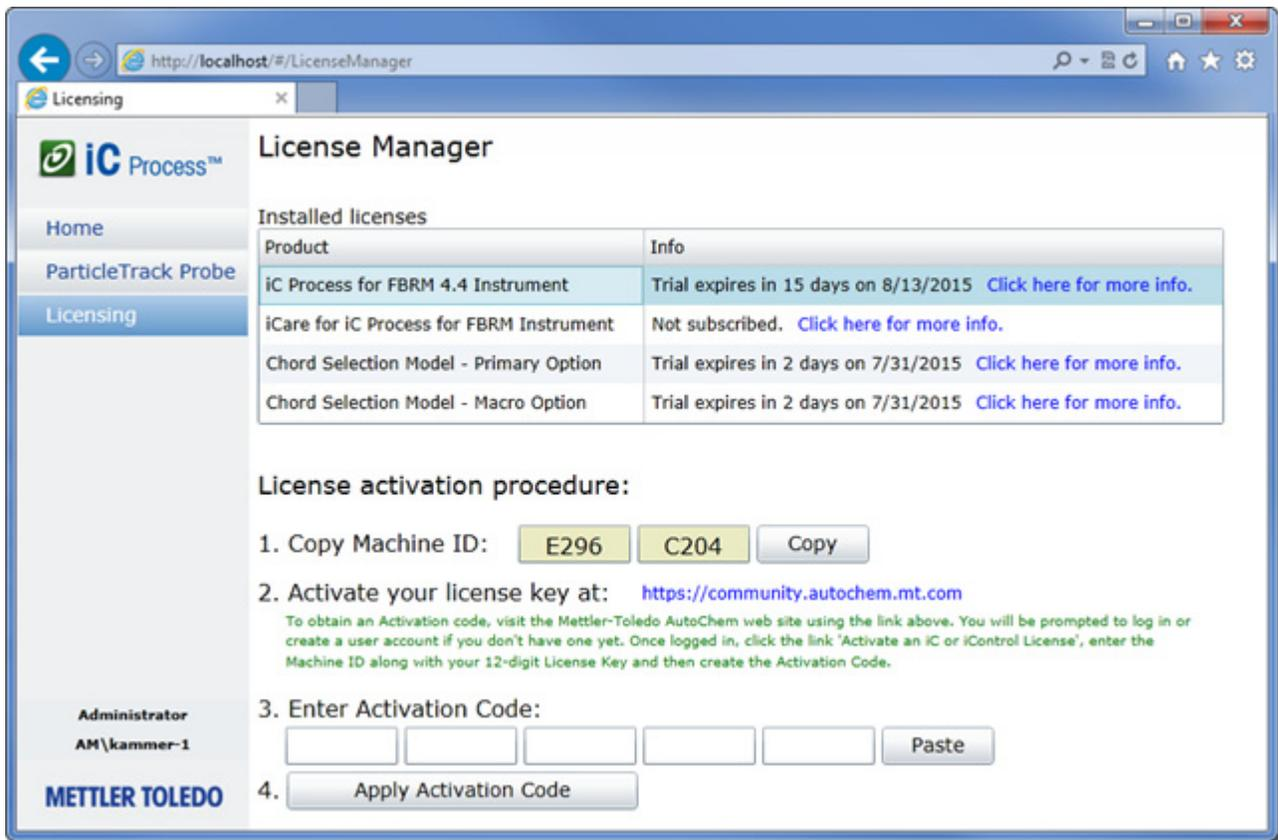

Figure 6-2 License Manager in iC Process—Activating a license
- On the License Manager page (Figure 6-2), click **Copy** after step 1 to copy the machine ID to your clipboard.